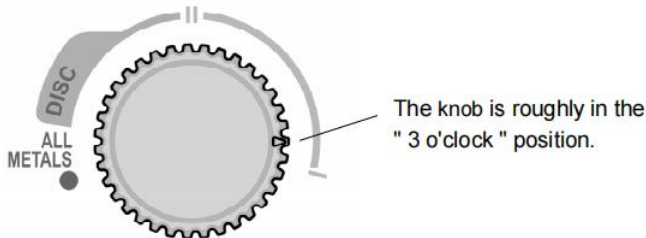

Figure 11. The ALL METALS/DISC Knob
3. To have the metal detector ignore nickel metals, set the ALL METALS/DISC knob to about " 3 o'clock " (see Figure 11). Sweep the nickel across the search coil at a distance of about 5cm to 7.5cm; the metal detector will not respond to the nickel or the iron nail. But it will respond to the other samples.